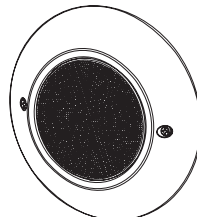
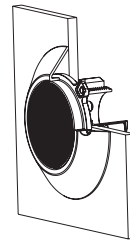

Figure 11
Figure 14
5. Wrap extra cables behind the light to make sure it could be taken to the pool surface for future maintenance. Then, hang the light onto the Mounting ring and tighten the screws (Figure 11 and Figure 14).